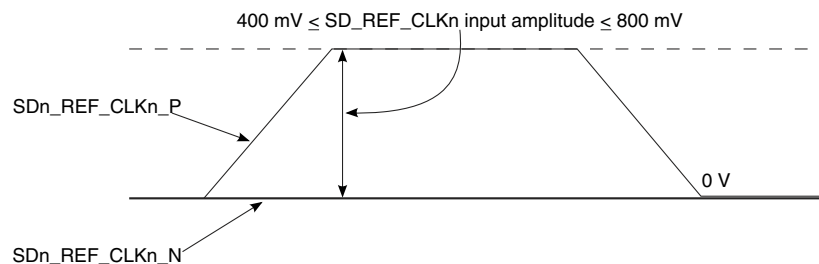

Figure 71. Single-ended reference clock input DC requirements
- The SDn_REF_CLKn_P input average voltage must be between 200 and 400 mV. Figure 71 shows the SerDes reference clock input requirement for single-ended signaling mode.